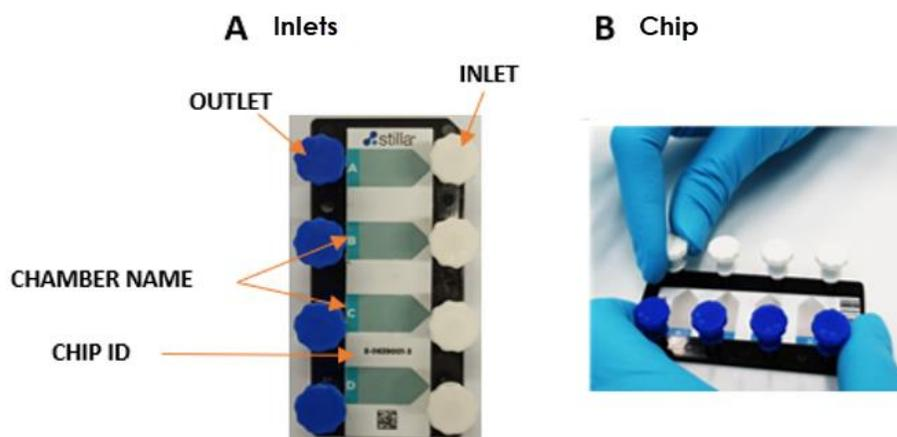

Figure 2 Flat cap display
- b. Discard the white flat inlet caps (see Figure 2 on the following page).